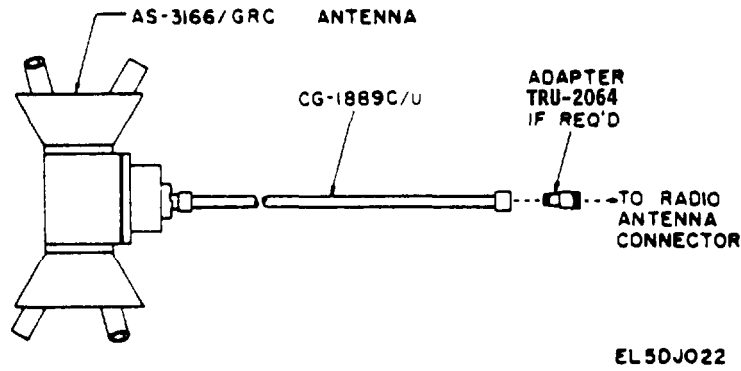

Figure 2-17. Connections of CG-1889C/U to AS-3166/GRC and radio.
(fig. 2-17)
(3) Run the CG-1889C/U through the driver's hatch, coil up the extra cable length, and attach the cable connector to the radio antenna connector (fig. 2-17).